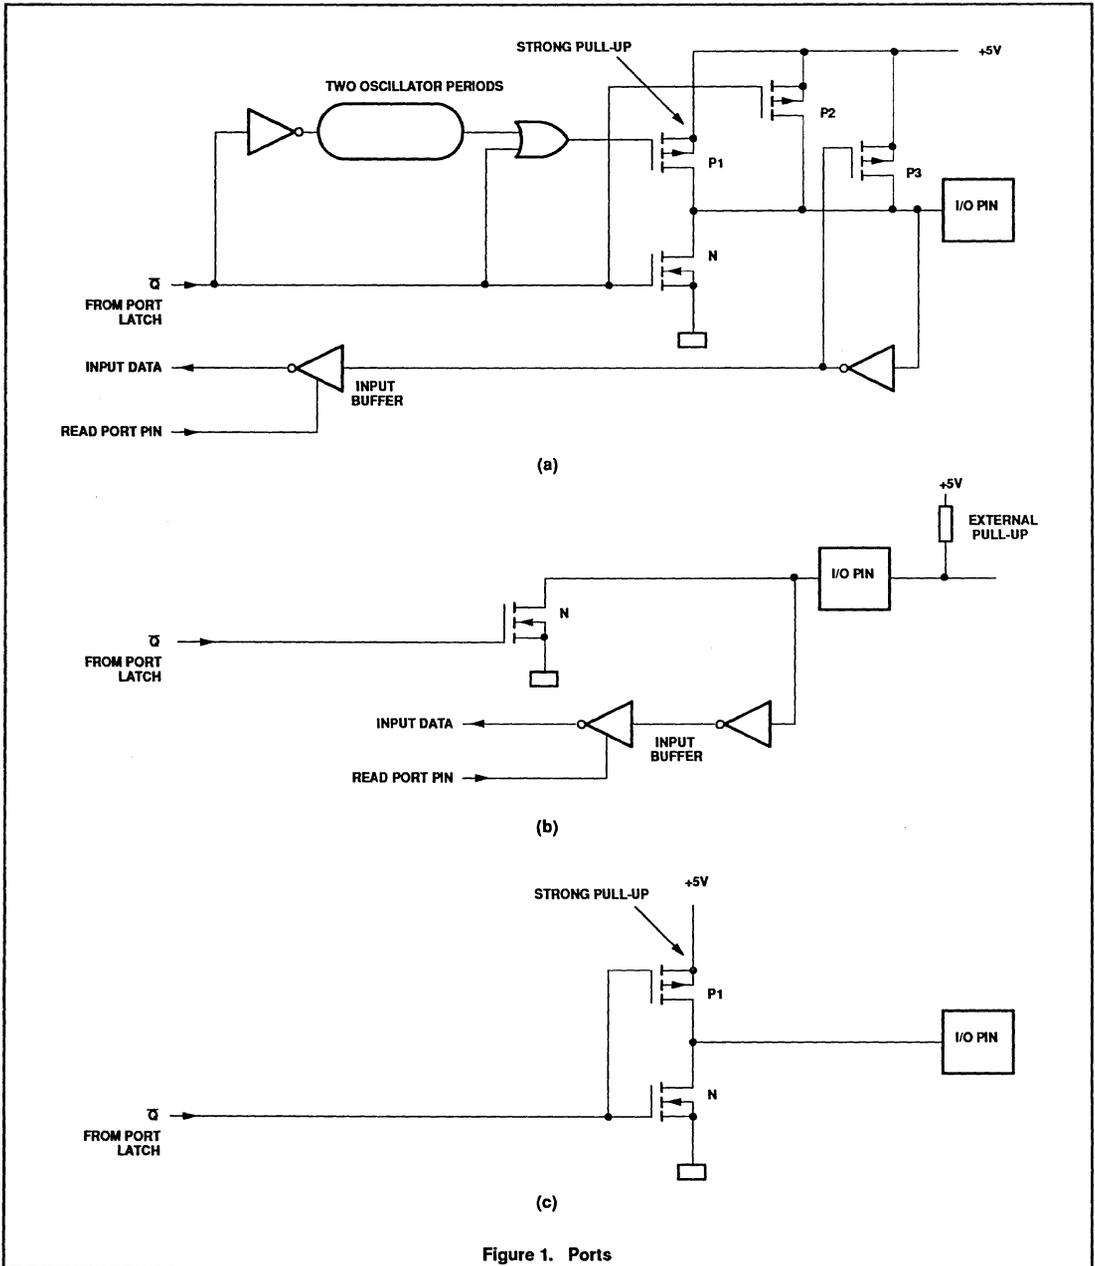

Figure 1. Ports
The pins of port 1, port 2, and port 3 may be individually configured with one of the following port options (see Figure 1):
- Option 1: Standard Port**—quasi-bidirectional I/O with pull-up. The strong booster pull-up p1 is turned on for two oscillator periods after a 0-to-1 transition in the port latch. See Figure 1(a).
- Option 2: Open Drain**—quasi-bidirectional I/O with n-channel open drain output. Use as an output requires the connection of an external pull-up resistor. See Figure 1(b).
- Option 3: Push-Pull**—output with drive capability in both polarities. Under this option, pins can only be used as outputs. See Figure 1(c).
Option 2: Open drain—quasi-bidirectional I/O with n-channel open drain output. Use as an output requires the connection of an external pull-up resistor. See Figure 1(c).